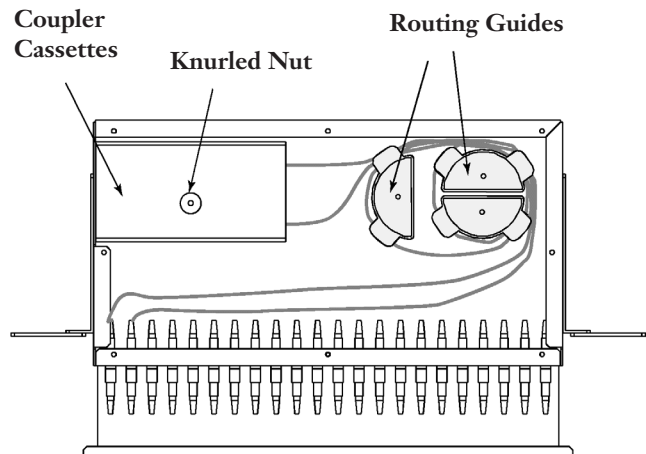

Figure 5
8.2 If the coupler circuit must change, coupler cassettes can be removed from and added to the unit by the following (refer to Figure 5):